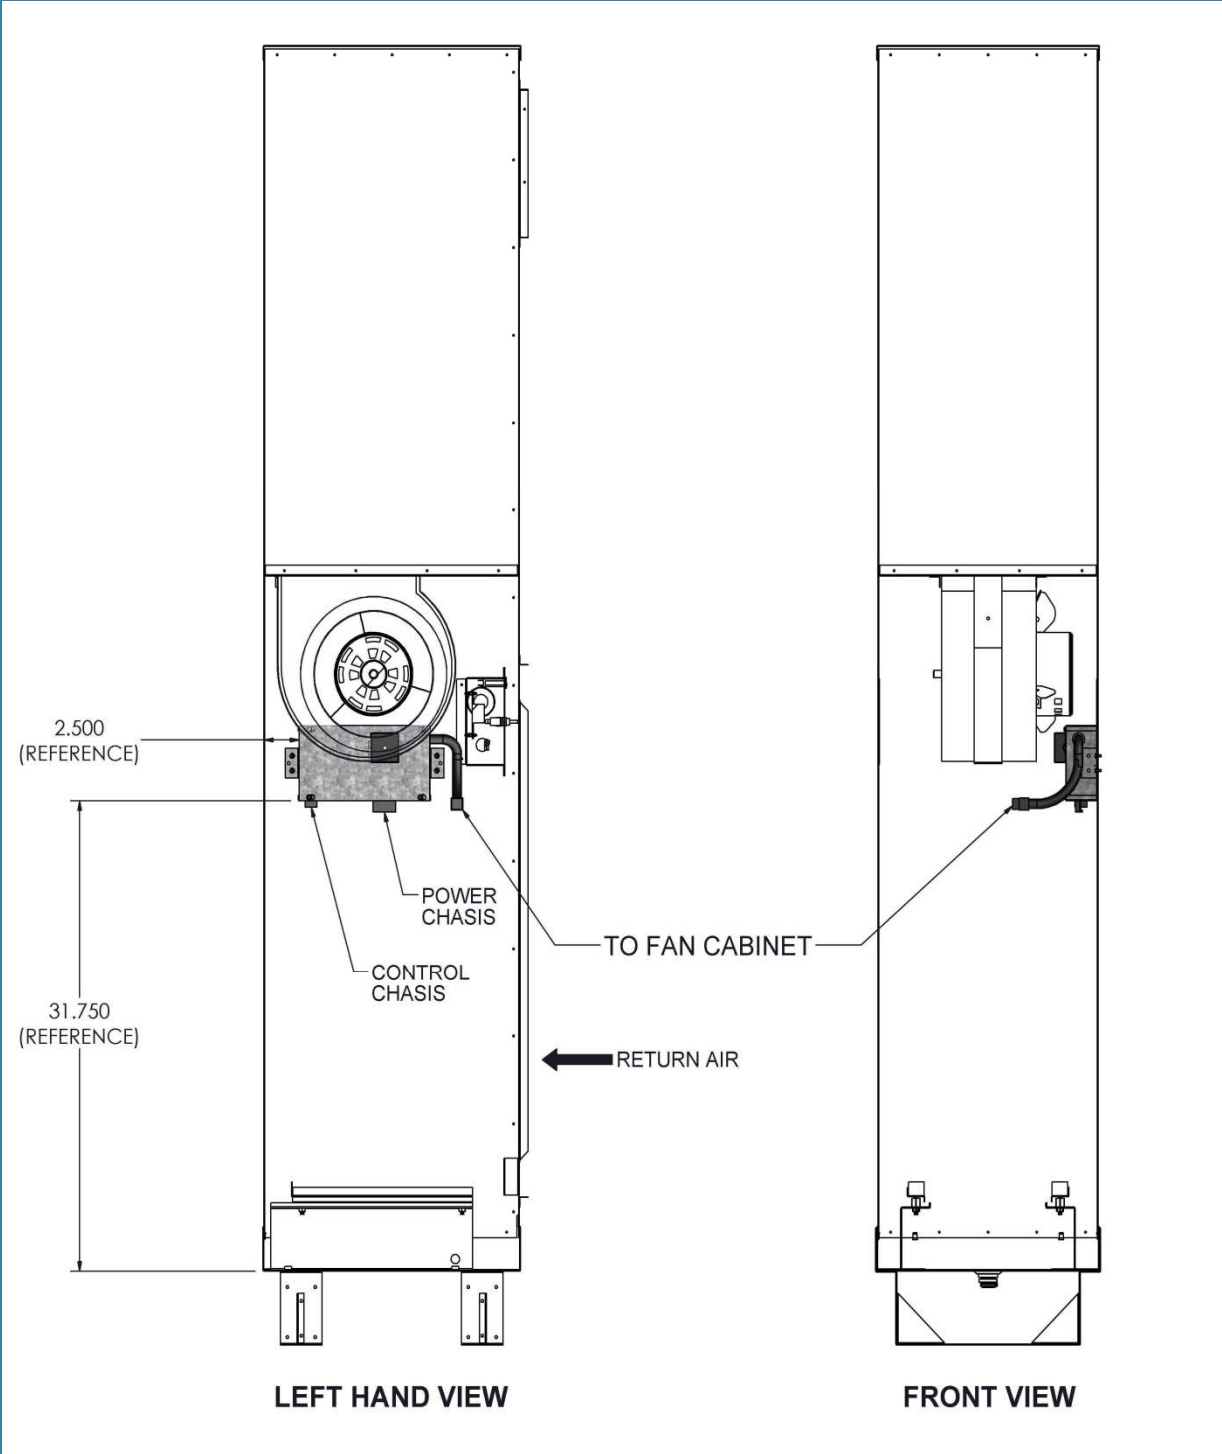

Figure 4 – Legacy Kit Installation
1. Fasten the Legacy Kit on the inside RIGHT side wall of fan cabinet in the approximate location shown in **Figure 4**.
2. Ensure orientation of kit is per **Figure 4** (note fan cabinet cable location as well as chassis power and control cable orientation on Legacy Kit).